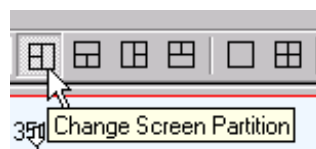

Figure 6. Normal screen arrangement with the *stick* or *histogram* style spectrum in the upper left.
- Click on "Operate" if the system is in "Standby" mode. Click on the window arrangement icon shown in Figure 6, if not already chosen. The spectrum on the left is a "histogram" style spectrum, similar to the display on the GC/MS. The spectrum on the right is a "profile" spectrum that shows the full resolution of the mass spectrometer.